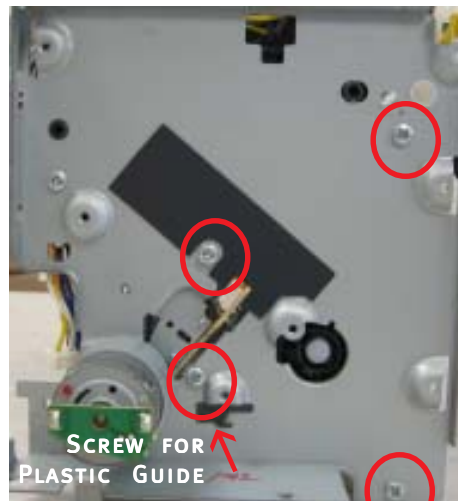

FIGURE 3: FOUR MOUNTING SCREWS
- Step 7: Loosen (do not remove) the 4 mounting screws (the mounting screws can be found behind the logic board) on the Chassis as shown in Figure 3.